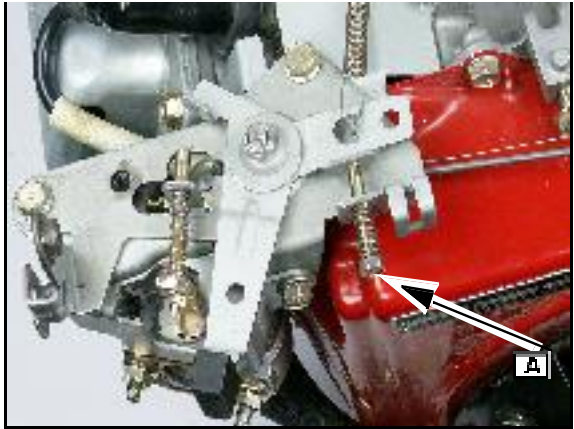

Fig. 36
3. Adjust top no load limiting screw ([A] Fig. 36) to obtain proper no load RPM.